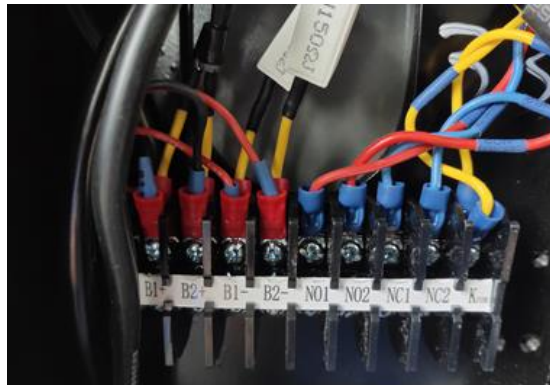

Figure 34
3. On the machine side disconnect the Brake and Brake Switch wires for the brake that is to be worked on, see Figure 34.